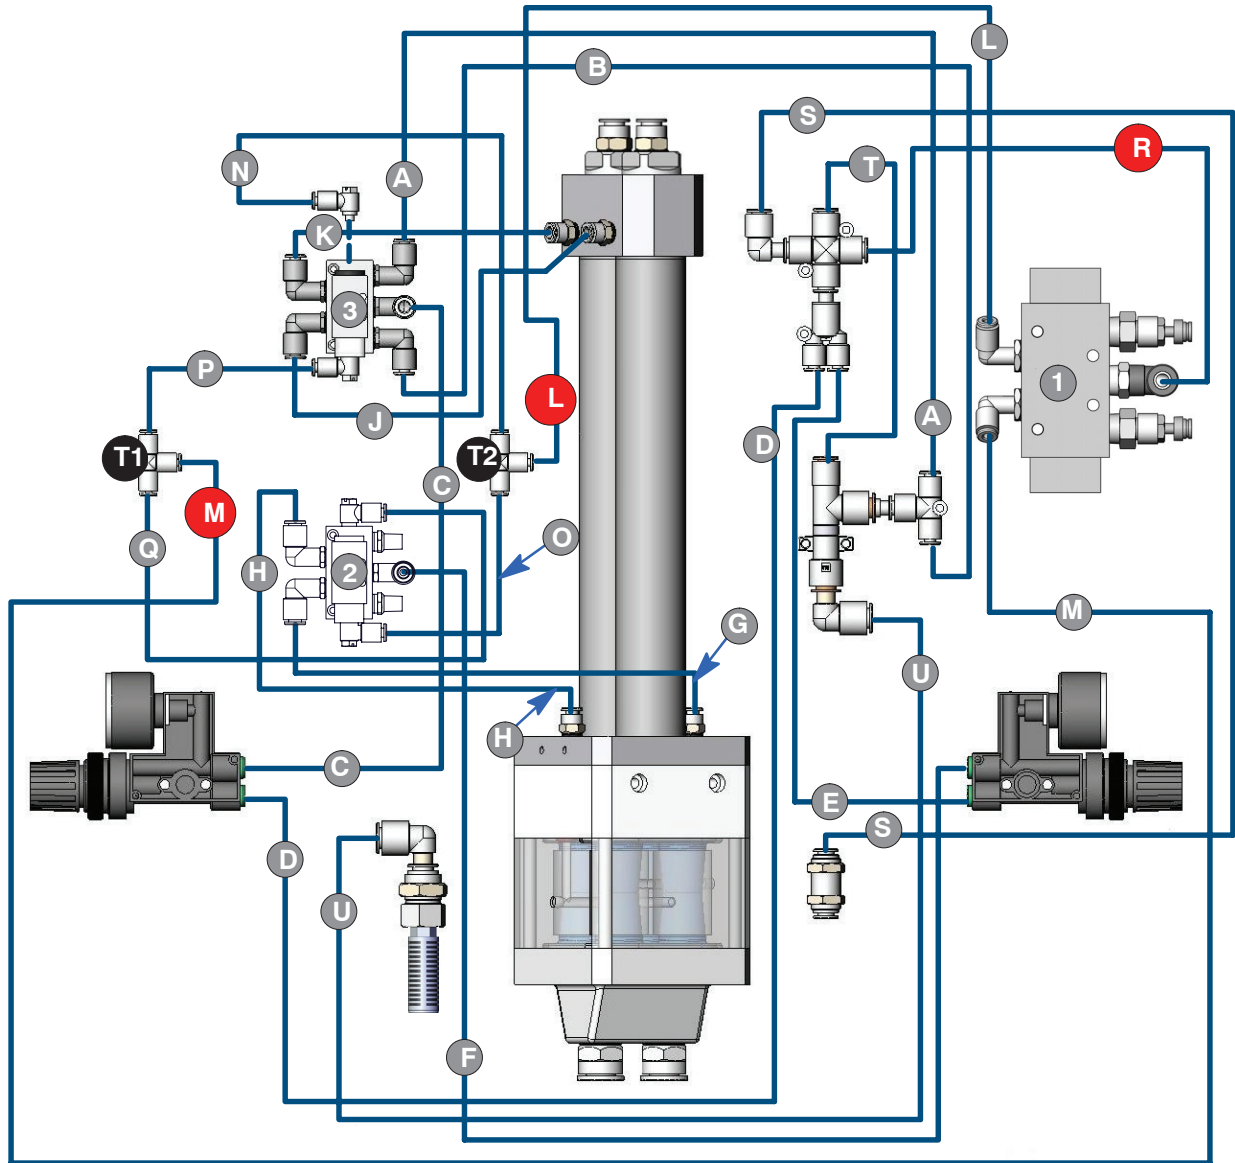

Figure 2 Transfer Pump Tube Routing
3. See Figure 2. Remove and discard tubing R.
4. Disconnect tubing L and M from the unions labeled T1 and T2 in Figure 2.